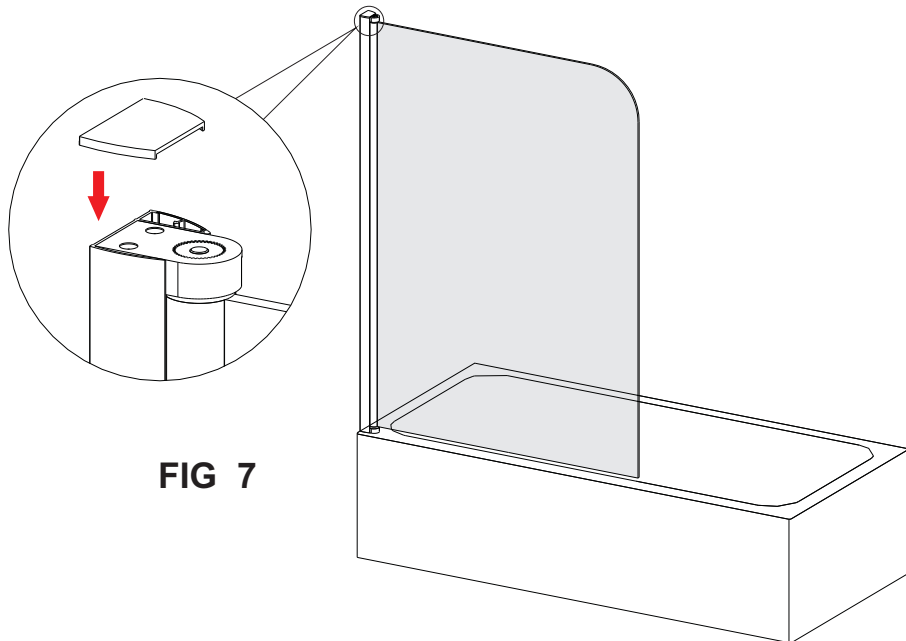

FIG 7
7. Fix top cover cap(M7017) to wall profile (M7013). **Fig 7.**